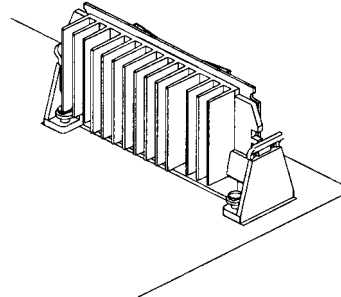

Figure 3-9: The Celeron processor in its RM.
3. Push the processor down firmly, with even pressure on both sides, until it is seated firmly in the RM (see Figure 3-9).